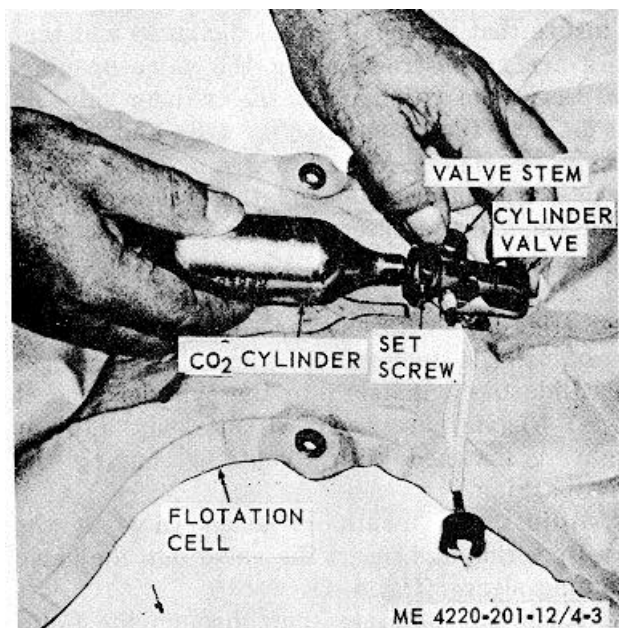

Figure 4-3. Inserting CO2, cylinder into cylinder valve.
*c.* Insert the cylinder into the cylinder valve on the deflated flotation cell (fig. 4-3) and tighten firmly by hand. Make sure the valve stem gaskets are serviceable and the valve stem is tight. On life preservers having a set screw, be sure the set screw is tightened.